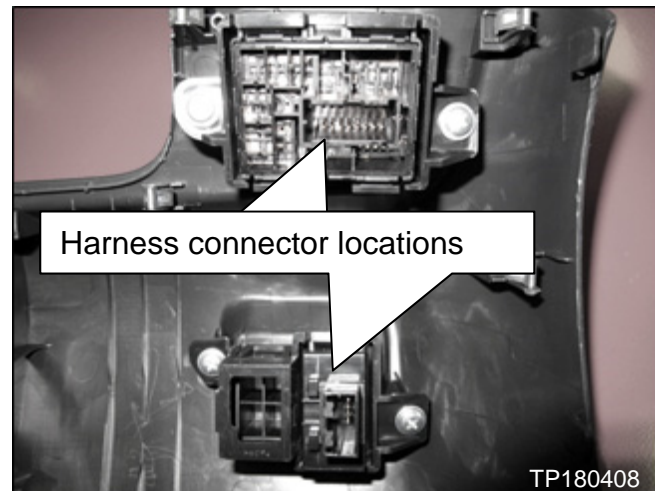

Figure 45
- Disconnect the harness connectors from the back side of the instrument lower panel (LH).
- Figure 45 shows connectors already disconnected.